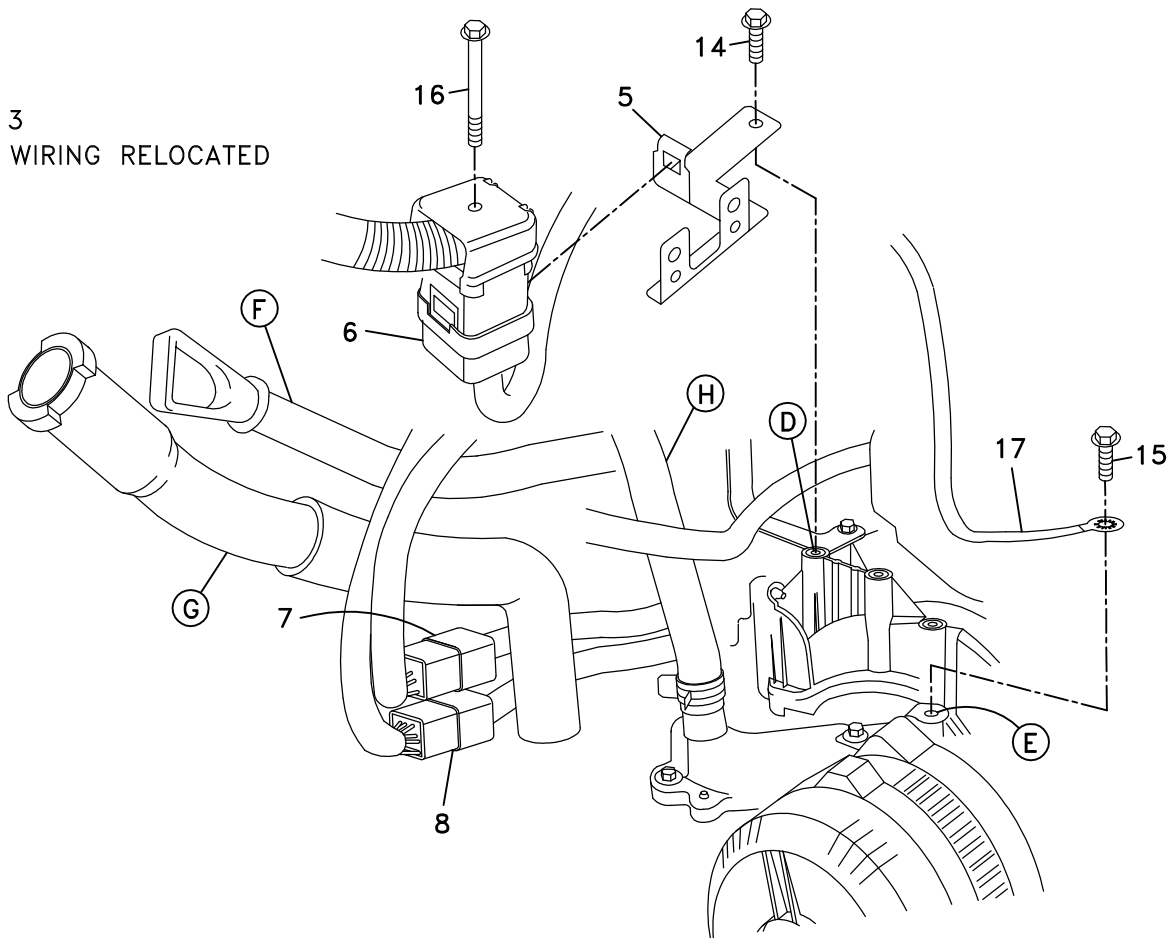

FIG. 4
6. Pull the small gray (7) and black (8) connectors apart. Route the female ends of the connectors (coming from the rear hood opening) on top of the transmission fill tube (F) and the engine oil fill tube (G). Plug the gray and black connectors back into their respective sockets. They will lie between the engine oil fill tube (G) and the heater. Take the end of the big connector (6) coming from the rear of the engine and route it behind the heater hose (H). Remove the alternator mounting bolt (15) at location E. Insert it through the ground strap (17) and bolt it back into its original location. Bolt the connector mounting bracket (5) onto the intake manifold at location D with the M6 x 16 bolt (14). Attach the rear half of the big connector (6) to the connector bracket. Put both halves of the connector together. Replace the bolt (16) holding the connector together. Torque to 36-50 lb-in.
7. All pumps except the .80 cu. in. pump will mount on the holes at Location K. If the .80 pump is used, it mounts on the holes at Location L. Hold pump (5) onto back of bracket (1) and clutch hub (8i) onto front of bracket, making sure anti-rotation pin (G) on front of hub is on top. Place two 3/8 x 1 1/4 socket head bolts (13) and 3/8 high collar lock washers (20) through pump, through mounting plate and thread into hub. Torque to 20 lb-ft.
8. Slide coil (8a) over hub, aligning hole in the back plate of coil with the anti-rotation pin (J) in the hub. The wires from the coil should be on the same side as the pin (J). Install large snap ring (8b) to hold coil in place.
10. Place the key (5) onto the pump shaft. Slide the hub/armature (8f) onto the pump shaft aligning the keyways.
13. Attach the idler pulley (2) to the boss on the front of the pump mount bracket (1) with the M10 x 40 shoulder bolt (12). Torque to 19-25 ft-lb.
**Items 14 and 15 apply to modifications to the pickup only (Fig. 4):**
14. Unclamp the heater hose (19) where it attaches to the engine and rotate the hose so it points to the rear of the truck. Clamp the heater hose back to the manifold. Remove the OEM bolt (25) from the fuel rail. Place the Adel clamp (23) around the hose and attach it to the fuel rail with the OEM bolt you just removed.
15. Pull the alternator wiring as far toward the passenger side of the engine as possible and attach to the heater hose outlet on the manifold casting with the plastic cable tie (24). Make sure the alternator wiring is not pinched between the engine and the pump bracket when it is installed.
16. Attach the pump mount bracket (1) to the engine with the OEM stud bolt (9) at location A and the M10 x 60 bolt at location B. Torque these bolts to 19-25 ft-lb.